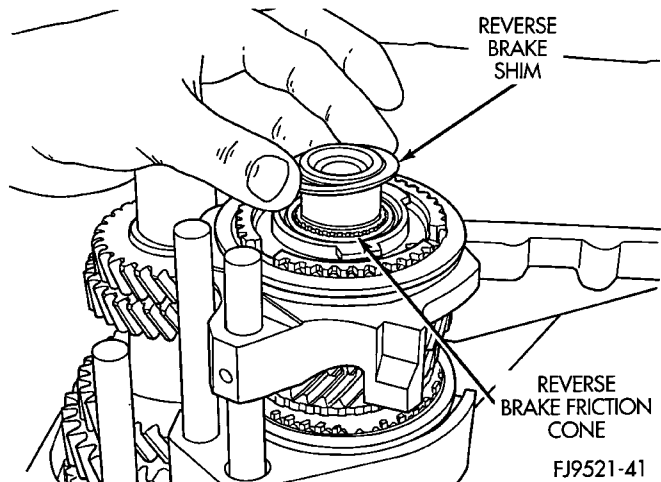
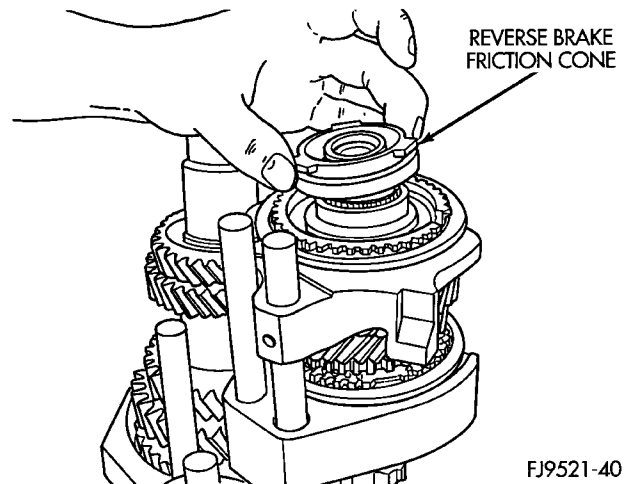

Fig. 49 Reverse Brake Shim
Fig. 50 Reverse Brake Friction Cone
(18) **TRANSAXLE W/REVERSE BRAKE:** Remove the reverse brake blocking ring, shim, reverse brake friction cone, bearing and race from the input shaft assembly (Fig. 49) (Fig. 50) (Fig. 51) (Fig. 52) (Fig. 53). **TRANSAXLE W/O REVERSE BRAKE:** Remove plastic spacer from the input shaft assembly.